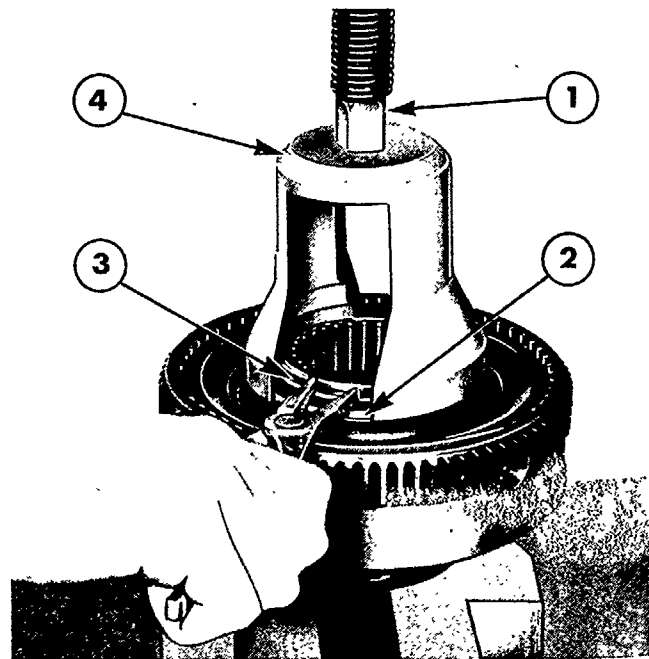

Figure 13
2. Depress the piston return spring and remove the snap ring from the inner hub using Tool No. N-775 and either Tool No. 1003 or a press, Figure 13.